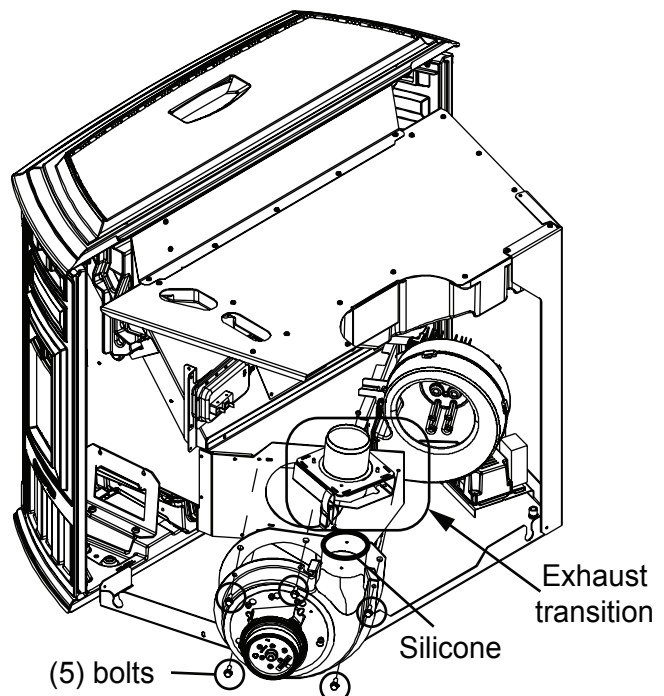

Figure 34.2
5. Using a utility knife cut silicone around joint of exhaust transition at the seem; set exhaust transition aside (**Figure 34.2**).
6. Using a 3/8 socket, remove the (5) bolts securing the blower to the appliance; set bolts aside and discard old blower (**Figure 34.2**).
7. Using high temperature silicone, seal seam between new blower and exhaust transition (**Figure 34.2**).
8. With new blower in hand line up gasket with hole and secure with bolts from step 6 (**Figure 34.2**).